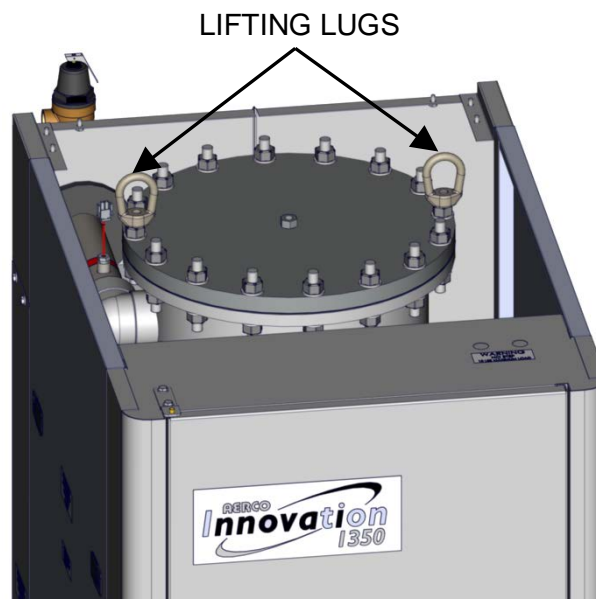

Figure 2-2. Partial Top View with Lifting Lugs Installed
The unit must be installed on a 4 inch to 6 inch housekeeping pad to ensure proper condensate drainage. Two lifting lugs are provided with the unit and are wire-tied to the top of the heat exchanger. The top sheet metal cover of the unit must first be removed and the lifting lugs must be installed as shown in Figure 2-2. **USE THESE TWO LUGS TO LIFT AND MOVE THE UNIT.** Remove the top panel from the unit to provide access to the lifting lugs. Remove the four (4) lag screws securing the unit to the shipping skid. Lift the unit off the shipping skid and position it on the 4 inch to 6 inch housekeeping concrete pad (required) in the desired location.